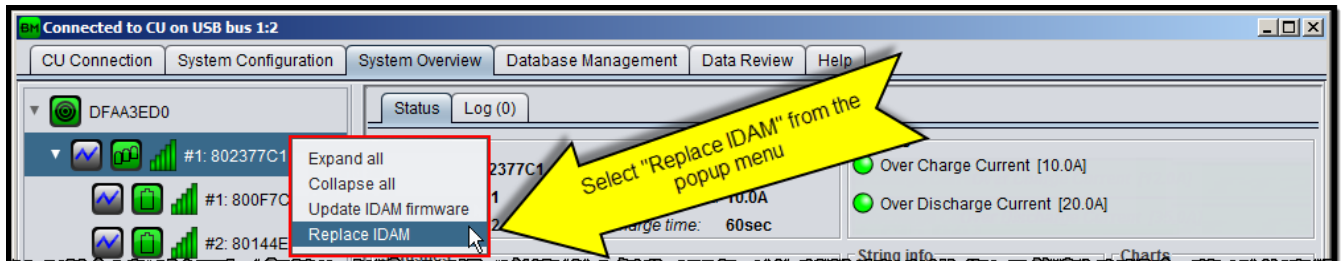
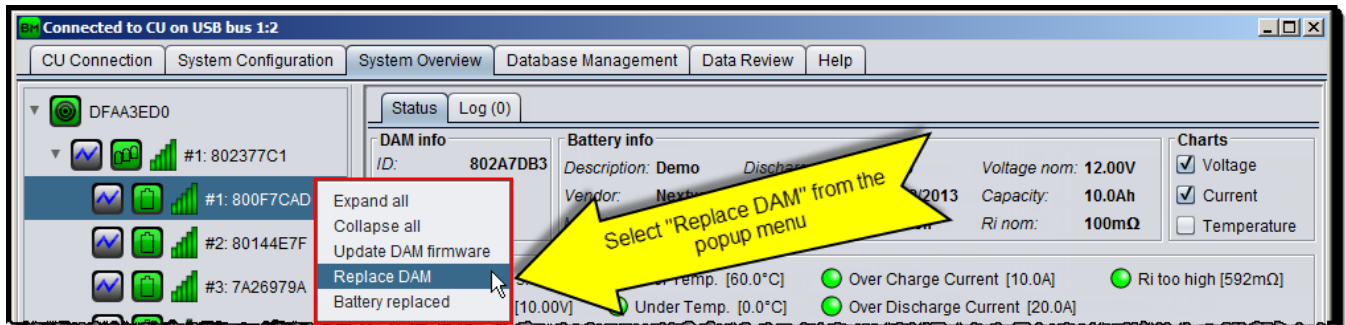

Figure 38: Replace IDAM
Figure 42: Replace IDAM
1. Right click on the string icon to activate the context menu as shown on Figure 38.
1. Right click on the battery icon to activate the context as shown on Figure 42/Figure 38.